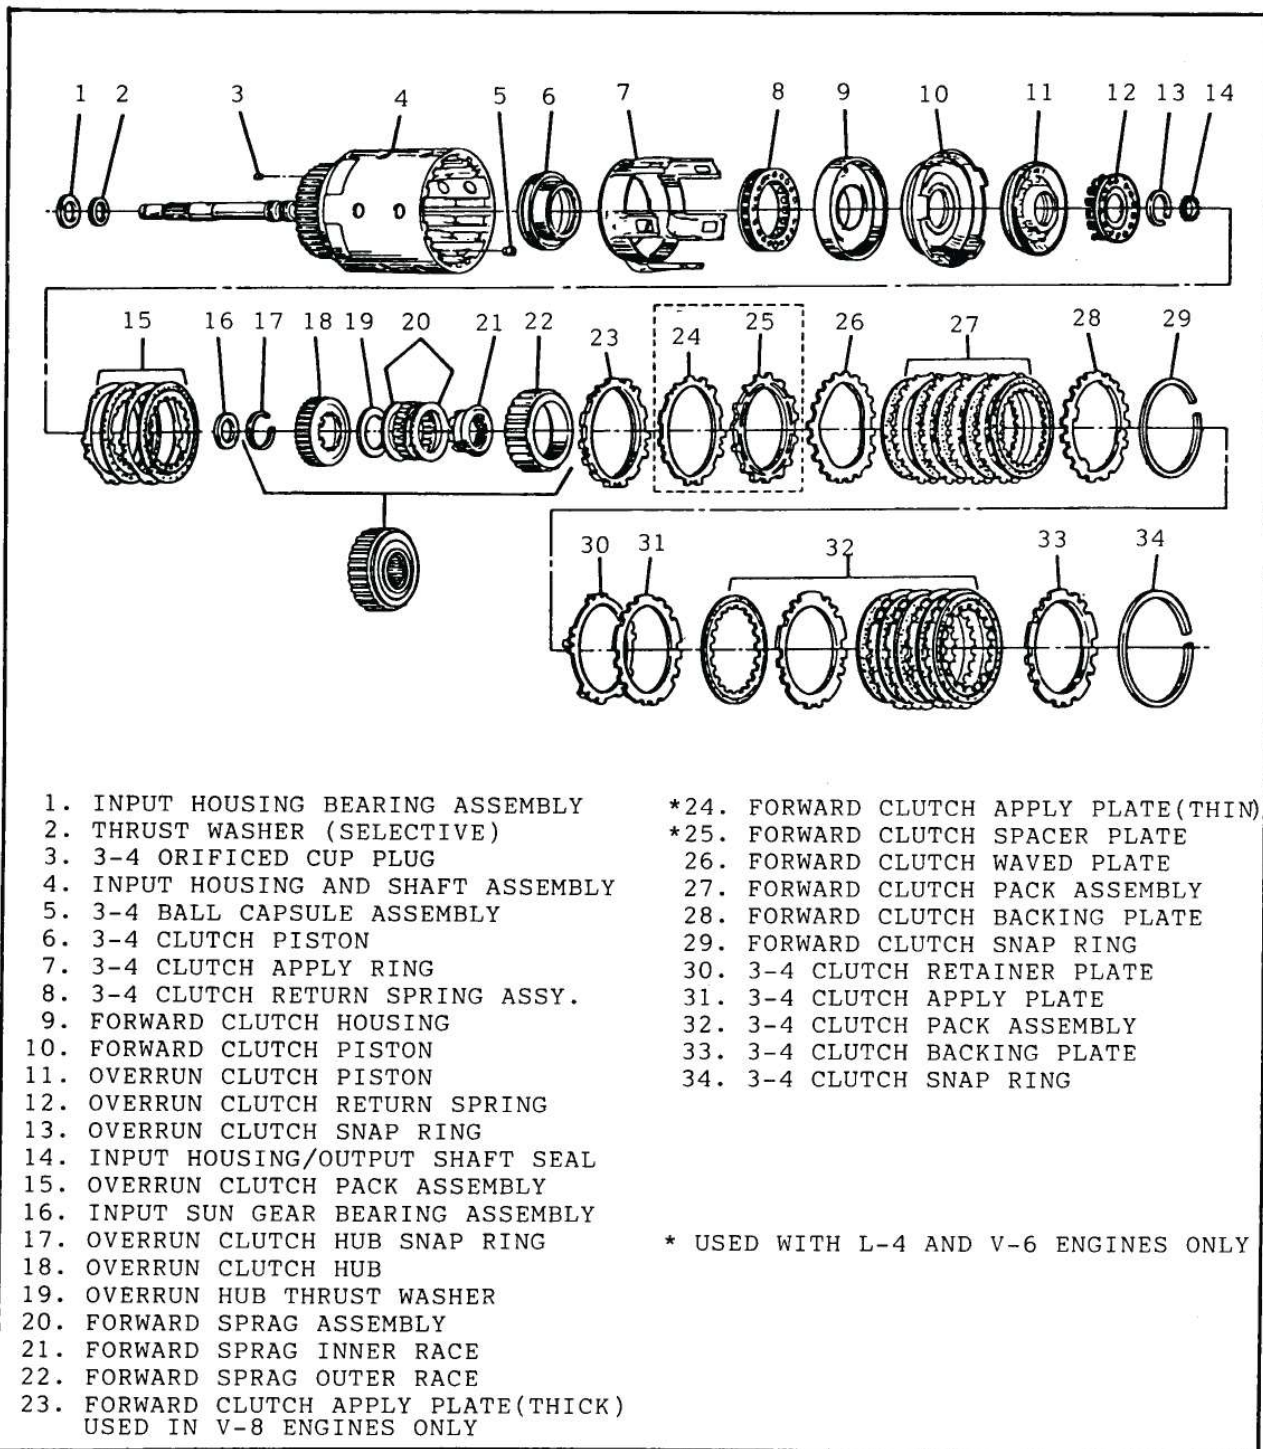

Figure 70
13. Refer to Figure 70 for disassembly.
24. Refer to Figure 70 for disassembly.
25. Remove the four (4) turbine shaft oil seal rings from the turbine shaft on the input housing. Always replace them with the solid teflon rings.
3. Use Figures 70, 75, 77, 78 for the assembly process.